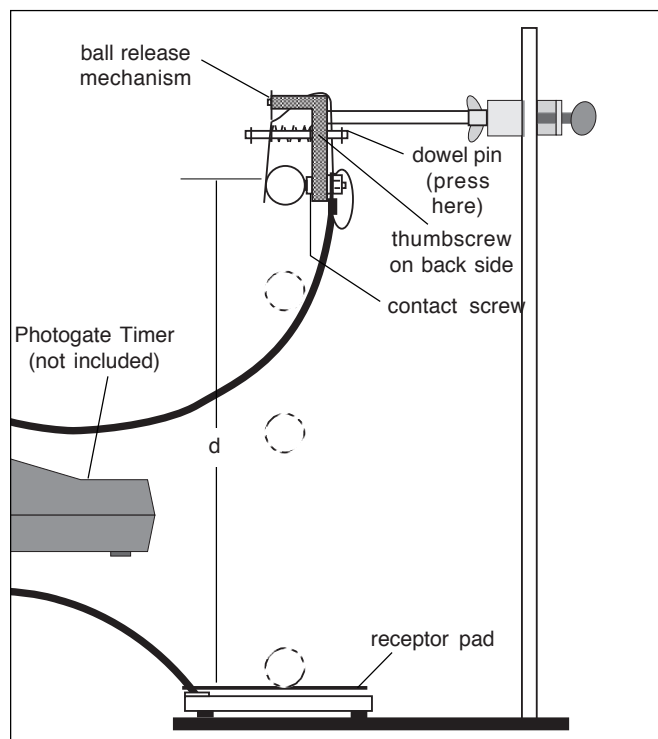

Figure 2. Equipment Setup
1. Clamp the ball release mechanism to a lab stand, or any other device that will hold it vertical and at the desired height over the floor or table (Figure 2).
5. Read the time on the digital display of the timer. This is the time it took for the ball to fall a distance d , as shown in Figure 2.
5. Read the time on the digital display of the timer. This is the time it took for the ball to fall a distance **d**, as shown in Figure 2.